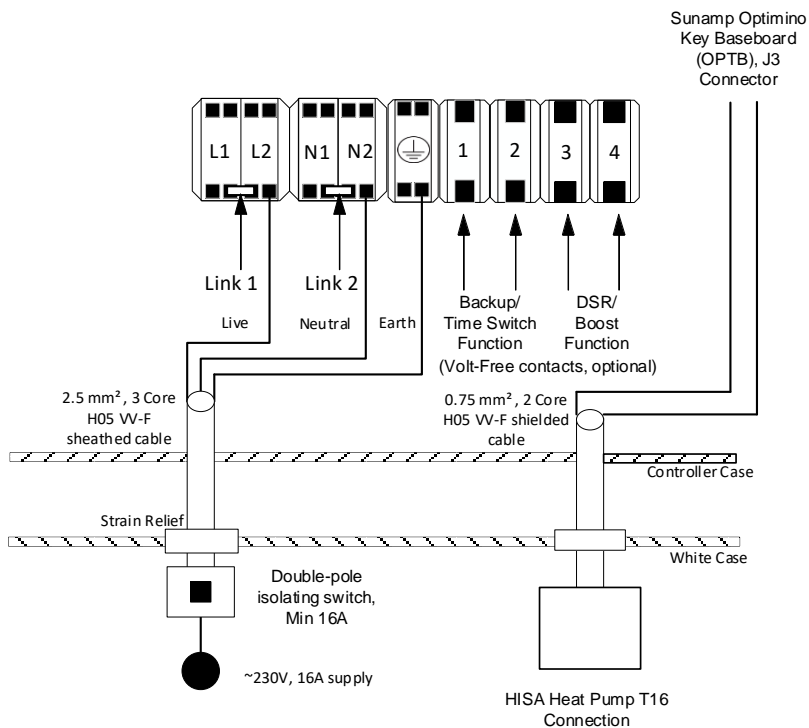

Figure HA.1 - Thermino xPlus with HA01 Optimino key
- Thermino xPlus with the “HA01” & “HA02” Optimino keys (D0084 – Section 6.4.2 for wiring instructions & Figures HA.1 & HA.2 below)
Using a 2-core shielded cable 0.75mm^2 , the cable will act as a hot water heating tank sensor from the Sunamp Optimino Board (OPTB) – terminal J3 into the HISA DHW Sensor terminal T16 (please refer to HP installation manual). Please run the wire into the heat battery appliance via the appliance case cabling grommets and then into the control box housing through the hole available. Secure the cables in terminals J3 on the Optimino Board; please see Figures HA.1 & HA.2 below for reference.